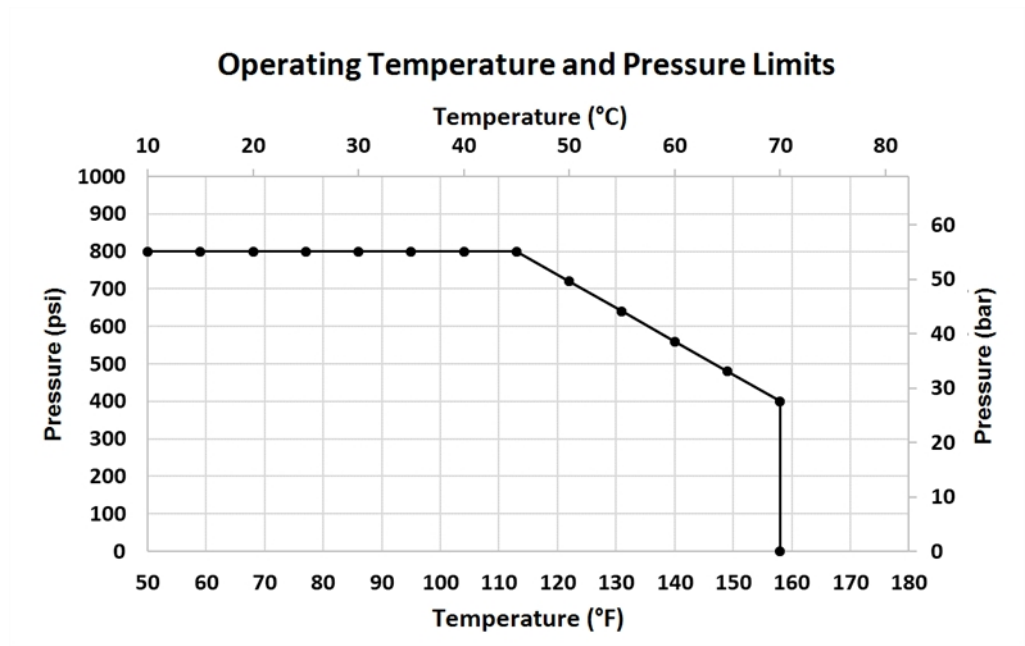

Figure 3: Maximum allowed temperature and pressure for FilmTec™ Hypershell™ NF245N-8038/48-FF and FilmTec™ Hypershell™ NF245N-3838/48-FF
- a. See Figure 3, Maximum allowed temperature and pressure for FilmTec™ Hypershell™ NF245N-8038/48-FF and FilmTec™ Hypershell™ NF245N-3838/48-FF.